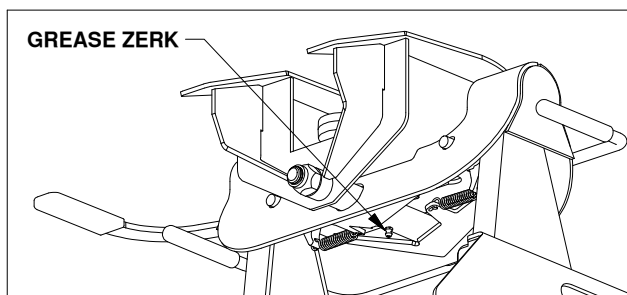

Figure G1: View under saddle.
- Grease the saddle through the grease zerk approximately every six months with multi-purpose grease. This allows the coupler to pivot freely, see Figure G1.